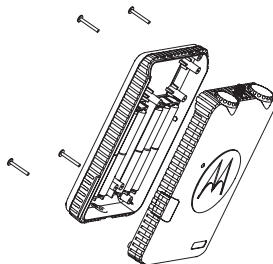

Figure 16b: Installing the Alkaline Battery Frame into/from the Repeater
3. Use a Phillips screwdriver to remove the four corner screws located at each corner on the back of the repeater, disconnect power harness and lift away the repeater back battery frame. "Figure 16b: Installing the Alkaline Battery Frame into/from the Repeater" on page 31.
6. Assemble the alkaline battery frame (loaded with the alkaline batteries) into the back of the repeater by tightening securely the four screws on each of the four corners on the back of the repeater. Please refer to "Figure 16b: Installing the Alkaline Battery Frame into/from the Repeater" on page 31.